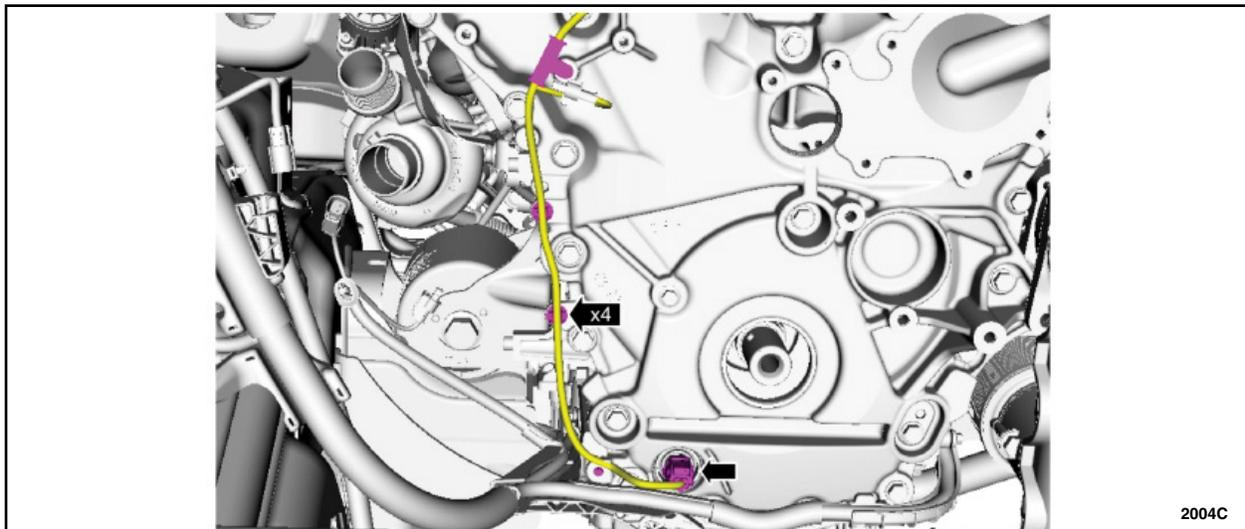

FIGURE 1
4. Disconnect the oil pump electrical connector from the engine and secure to wire harness or coolant tube with a zip tie to prevent movement. See Figure 1.